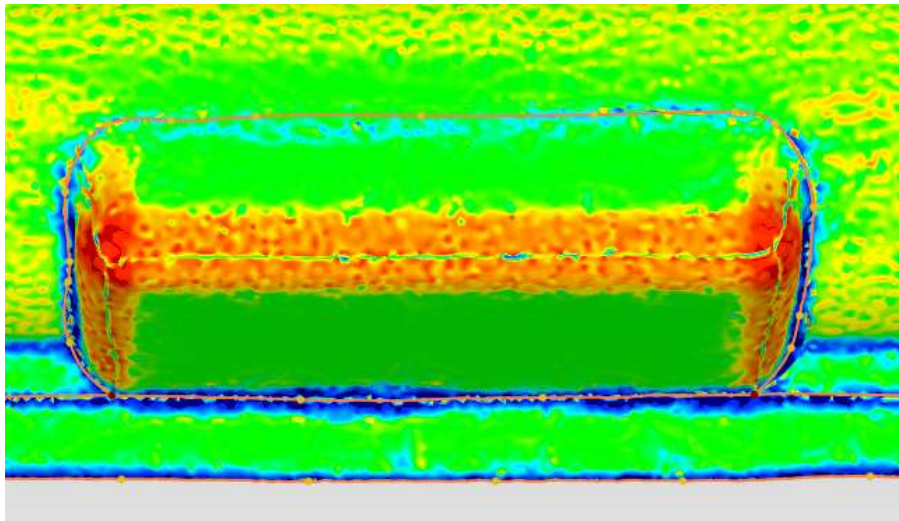

Figure 114 - Curvature Map Displayed
- Use the **Curvature Map** and **position** the points as before on the areas of curvature as shown in **Figure 114**.